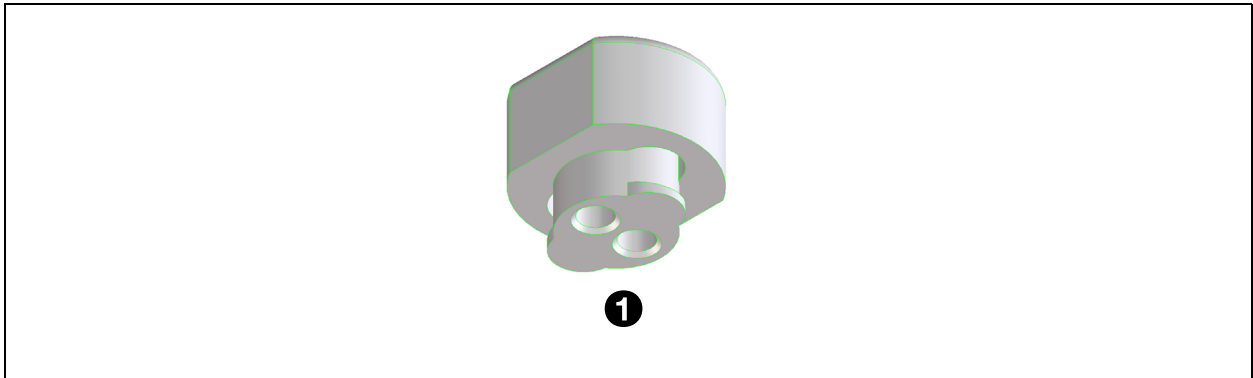

Fig. 28 - Loadcell calibration
**Loadcell carrier calibration, see fig. 28.**